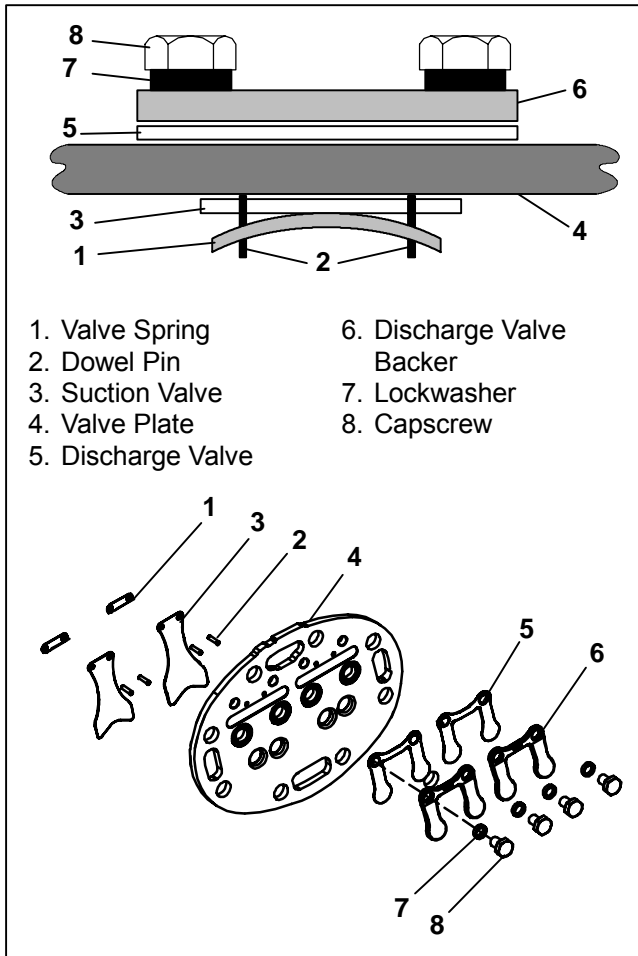

Figure 3-3. Installing Suction Valves
- d. Install the suction valve spring on the dowel pins with the spring ends bearing away from the cylinder head. (See Figure 3-3)